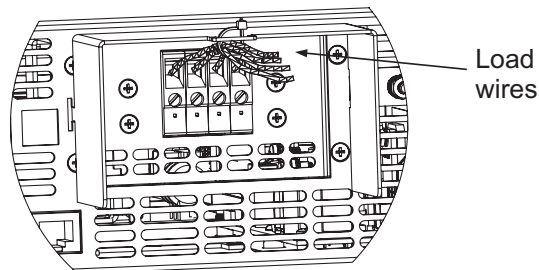

Fig.3-10: Protective shield and wires assembly
6. Tighten the wires to one of the shield sides using ty-wrap or equivalent. Refer to Fig.3-10. Ensure that the wire length inside the shield is long enough to provide strain relief.